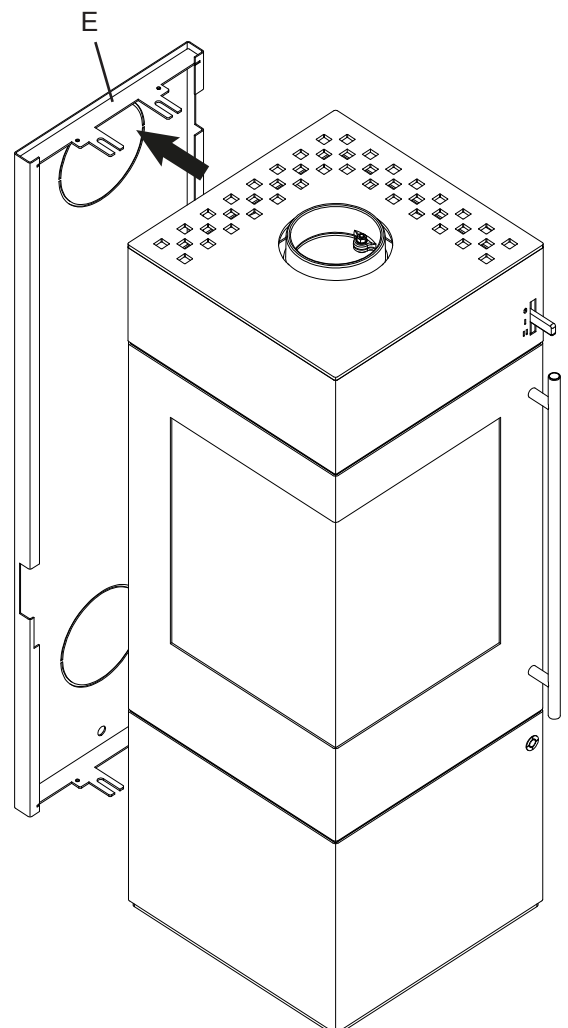

Fig.10
- Take off the back panel (E) (see Fig.10).